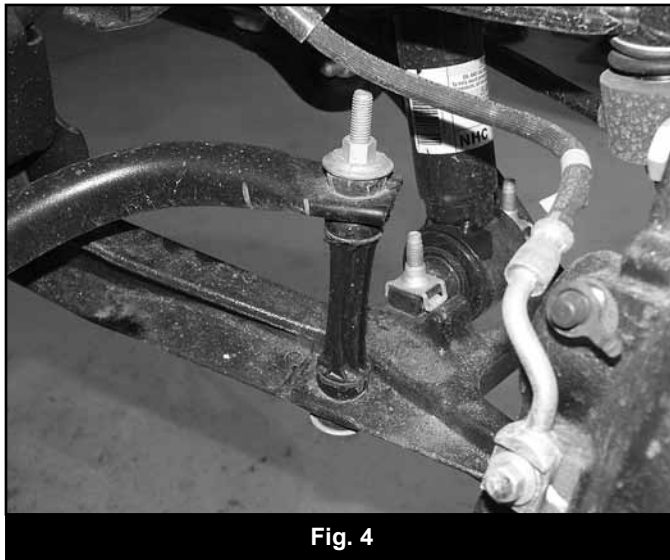

Fig. 4
9. Remove the sway bar links from the sway bar and the lower control arm (Fig 4). Retain the links, bushings and hardware.